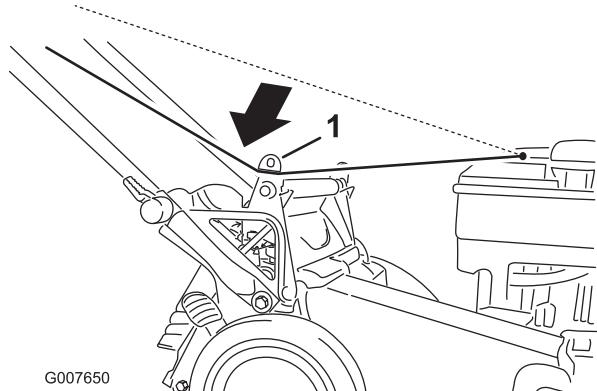

Figure 21
- Route the starter rope around the lower-rope guide (Figure 21).